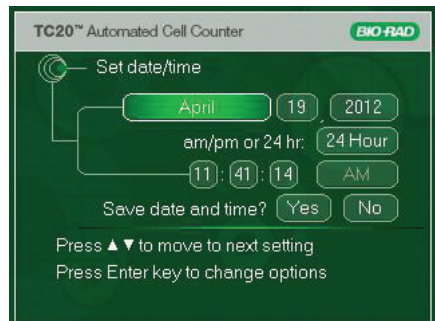

Fig. 6. Setting the date and time.
3. Use the **up** or **down** arrow key to move through the settings until you reach the setting you want to modify (for example, month) (Figure 6). The press **Enter** to find the correct option (for example September, October).